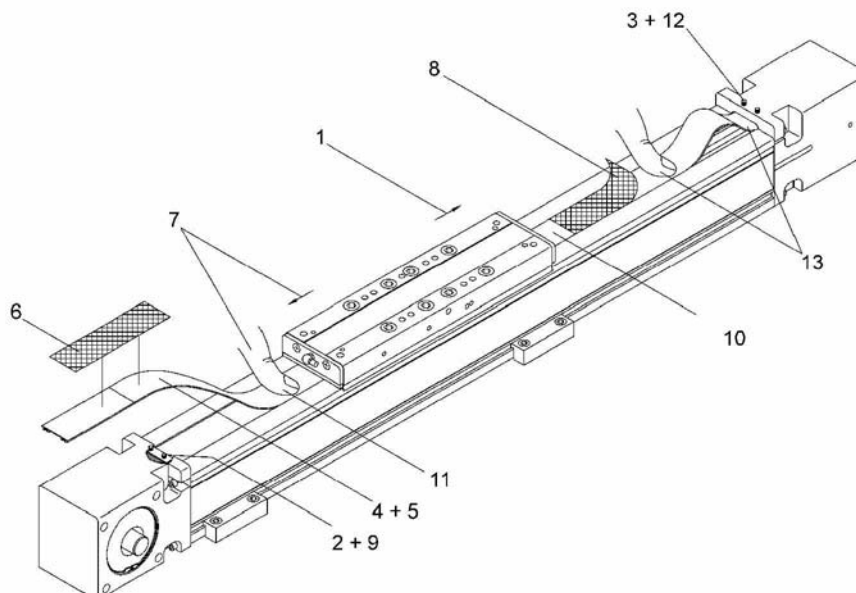

Fig. 8:
1. **Fig.8:** Move the sliding carriage to the backward end position (movable bearing side).